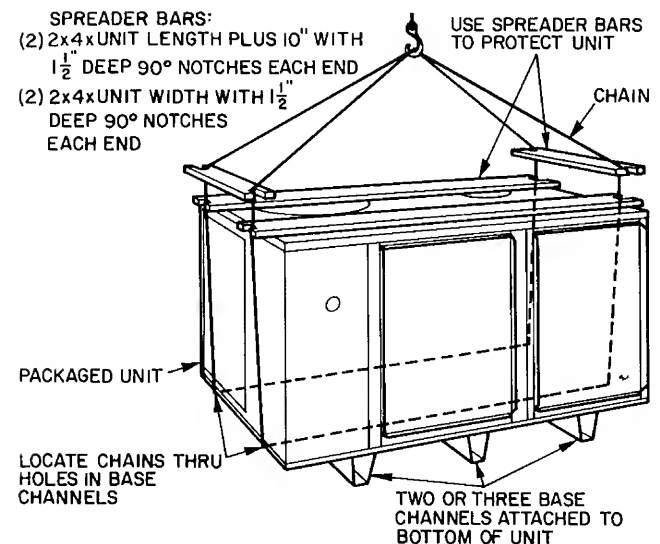

Fig. 2 — 48GH, GL Suggested Rigging
**CAUTION:** When rigging unit to be lifted, use spreader bars to protect top and sides. Models 48GH/GL must be rigged for lifting as shown in Fig. 2. Use extreme caution to prevent damage when moving unit.